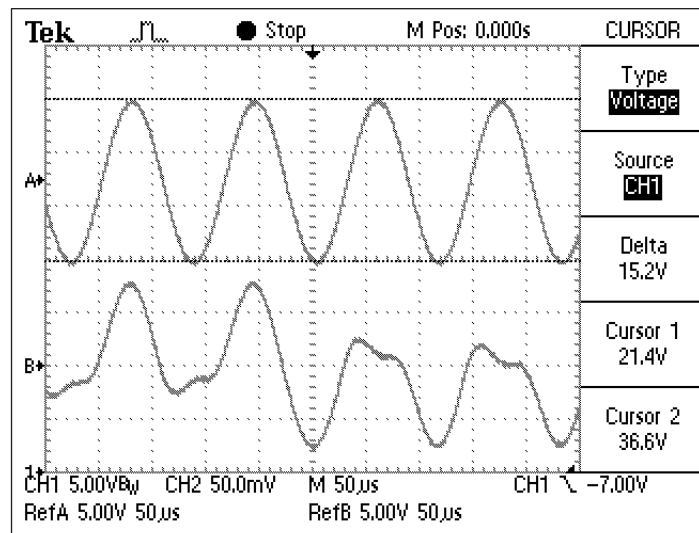

Figure 4.2: True velocity signal (A) and signal when the tracking filter loses lock (B)
- For medium velocities and frequencies, the acceleration limits of the tracking filter have to be taken into consideration. The optimal setting must be found with the range diagram. If the velocity or acceleration limits are exceeded, the tracking filter loses lock (refer to section D.2). This will cause serious signal distortions an example of which can be seen on the oscilloscope trace in figure 4.2. The signal A shows a sinusoidal velocity signal with the tracking filter in position OFF. Signal B shows the signal with the tracking filter in position SLOW. The tracking filter is on the limit of the range where it loses lock, the signal is partly distorted.